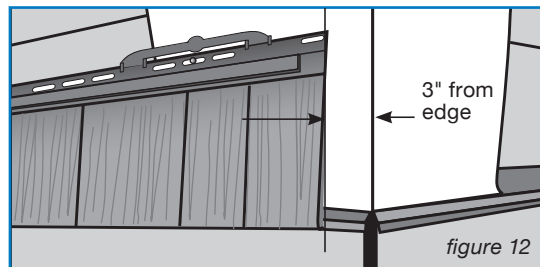

figure 12
1. Install the first Cedar Impressions panel 3" from the edge of the outside wall (figure 12).